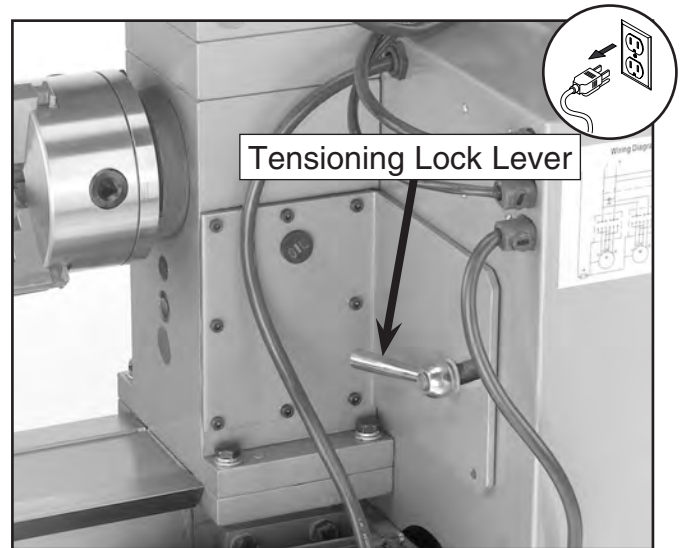

Figure 35. Lock lever to adjust pulley.
2. Loosen the tensioning lock lever on the back of the lower belt guard (see **Figure 35**).